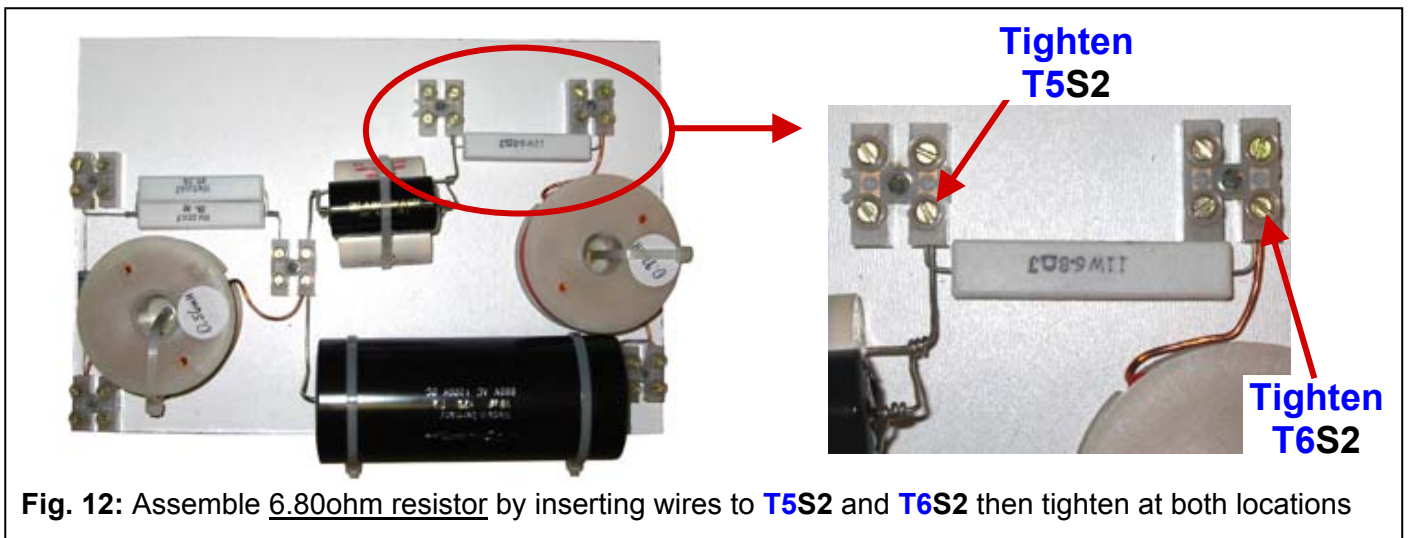

Fig. 12: Assemble 6.80ohm resistor by inserting wires to **T5S2** and **T6S2** then tighten at both locations
17. Assemble cement **6.80ohm resistor** to board by inserting wires into **T5S2** and **T6S2** ... then screw down wires at **T5S2** and **T6S2** (Fig. 12)